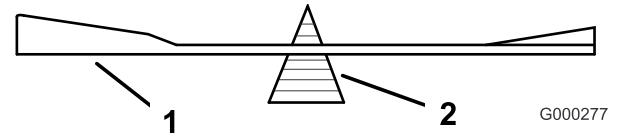
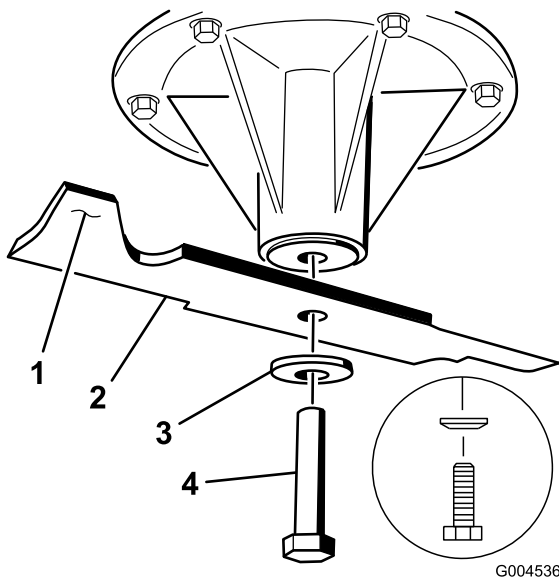

Figure 92
Figure 93
2. Check the balance of the blade by putting it on a blade balancer (Figure 92). If the blade stays in a horizontal position, the blade is balanced and can be used. If the blade is not balanced, file some metal off the end of the sail area only (Figure 93). Repeat this procedure until the blade is balanced.
1. Install the left and center blades, curved washers, and blade bolts to the spindle shafts (Figure 93 and Figure 94).
Note: Ensure the curved-washer cone is installed towards the bolt head (Figure 93).
2. Install the right blade, curved washer, and blade bolt (left-hand threaded bolt) to the spindle shaft (Figure 93 and Figure 94).